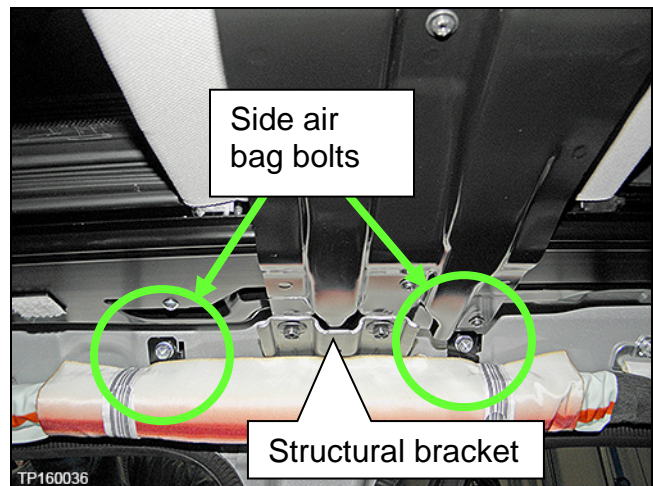

Figure 53
3. Remove two bolts per side air bag (4 total) that attach the left and right side airbags to the roof rail and then allow them to hang free (Figure 53).